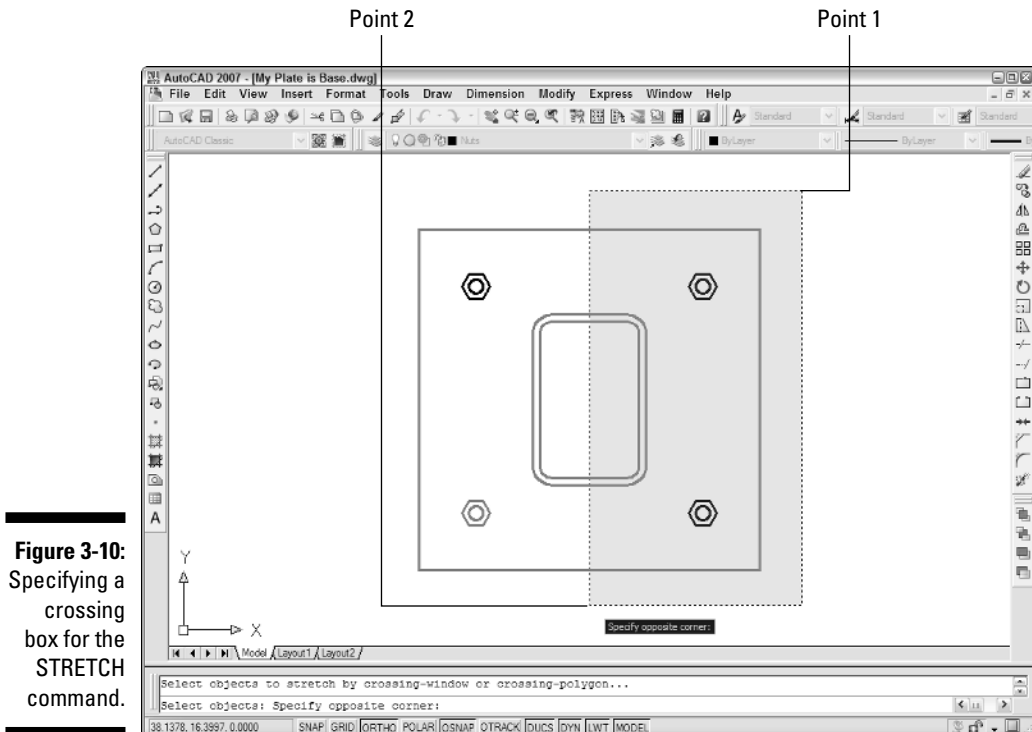

Figure 3-10:
2. Click a point above and to the right of the upper-right corner of the plate (Point 1 in Figure 3-10).
4. Click a point below the plate, roughly through the center of the column (Point 2 in Figure 3-10).
The crossing box must cut through the plate and column in order for the STRETCH command to work (refer to Figure 3-10).